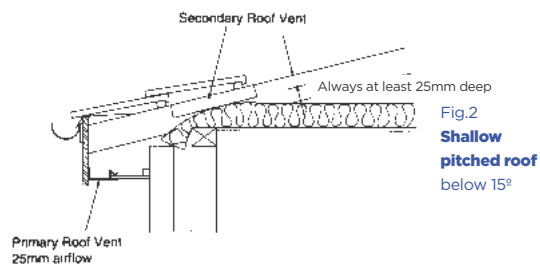

Fig.2
- With a pitched roof where the pitch of the roof is less than 15 degrees and the roof space is an attic or loft a free airflow is required which is equivalent to a continuous 25mm opening (25,000 mm² per metre run). See fig. 2
- With a pitched roof where the pitch of the roof is less than 15 degrees and the roof space is an attic or loft a ventilation channel at least 25mm deep must be maintained between the roof insulation and the underside of the roof covering. See fig. 2